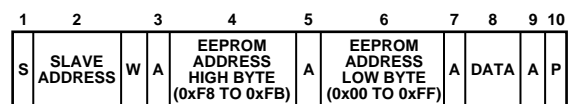

Figure 43. Single Byte Write to EEPROM
- To write a single byte of data to EEPROM. In this case, the command byte is the high byte of the EEPROM address from 0xF8 to 0xFB. The first data byte is the low byte of the EEPROM address, and the second data byte is the actual data, as shown in Figure 43.